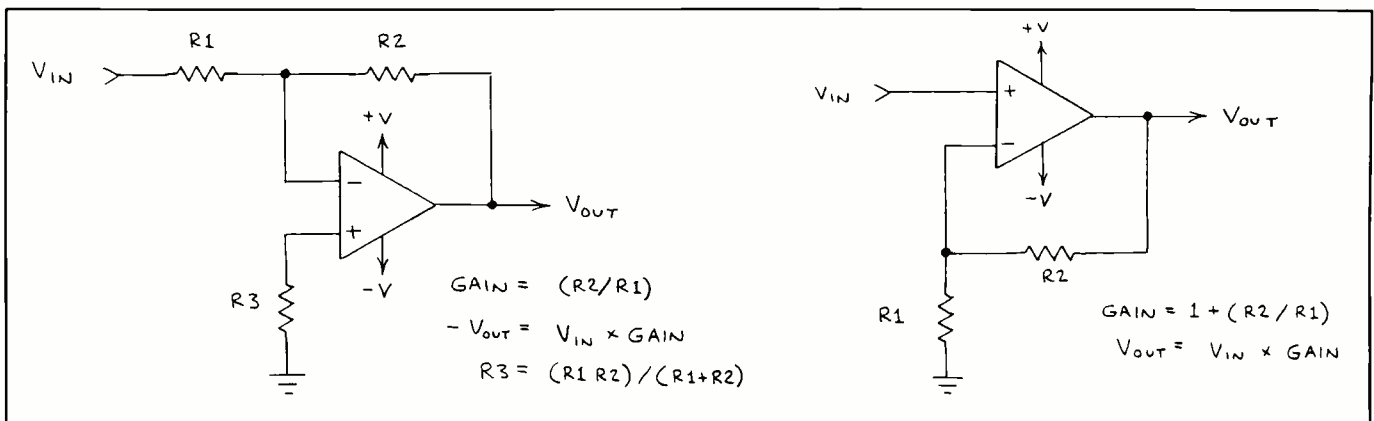

Fig. 1. Basic inverting (A) and noninverting (B) amplifiers.
It must be emphasized at this point that this is definitely *not* a "plug into any outlet" project. Your source *must* be direct from your main ac-line circuit breaker or fuse box. That is, the ac line's "hot" conductor (the black wires in the fuse box) must go to the "ac hot" lugs of the fuse holders, as illustrated in Fig. 1. The large grounded neutral center bus to which are connected white-insulated conductors must be connected to the
Amplification factor or gain of an op amp is controlled by a feedback resistor connected between the amplifier's output and inverting input. Figure 1 shows an op amp connected as an inverting amplifier (A) and noninverting amplifier (B).